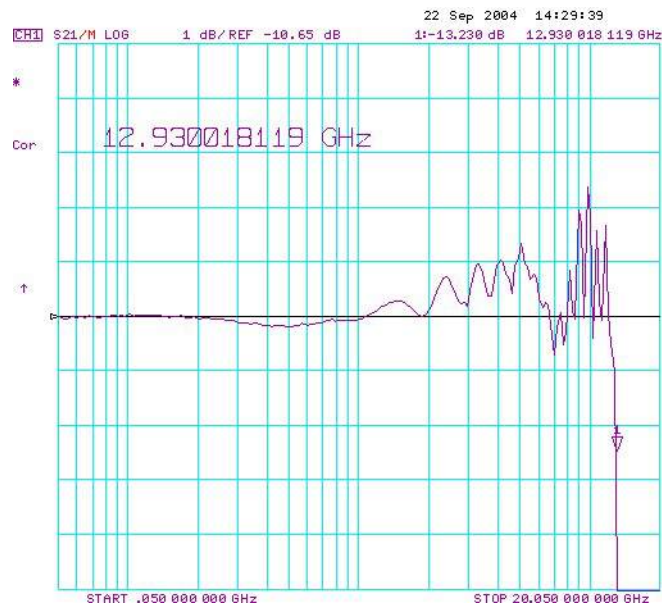

Figure 213 Typical Waveform for an 1134B Probe
- 44 Then select the **Data/Memory** screen key. You may need to adjust the **Reference Value**, located under the **Scale Ref** key, slightly to position the waveform at center screen at 100 MHz. The waveform should be similar to that shown in **Figure 213**.